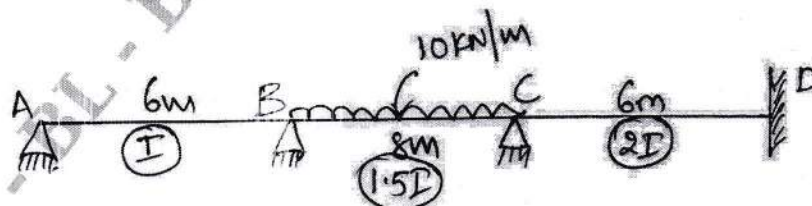

Fig.Q3
3. Analyse the continuous beam shown in Fig.Q3 by moment distribution method and draw SFD and BMD. Support 'B' and 'C' settles by 8mm and 3mm respectively. Take $EI = 2 \times 10^4 \text{ kN/m}^2$.